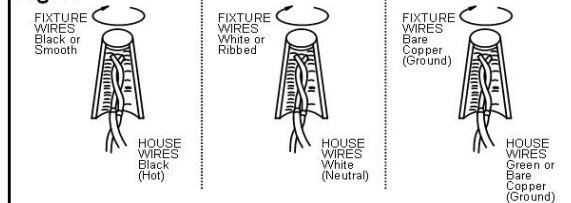

Fig.3
7. Align back plate (N) onto mounting plate (C) and secure with the rubber washers (K) and cap nuts (L).
8. Separate lamp body (P) from top cover (M) by unscrewing the mounting screws (Q). Align the glass (Q) into body (P) and secure with glass clips (S).
9. Re-attach body (P) to the top cover (M) with mounting screws (Q).
10. To prevent moisture from entering the outlet box and causing a short, use clear caulking (i.e. Indoor/Outdoor Silicone Sealant) to outline the outside of fixture back-plate where it meets the wall leaving a space at bottom to allow moisture a means to escape (Fig 3).